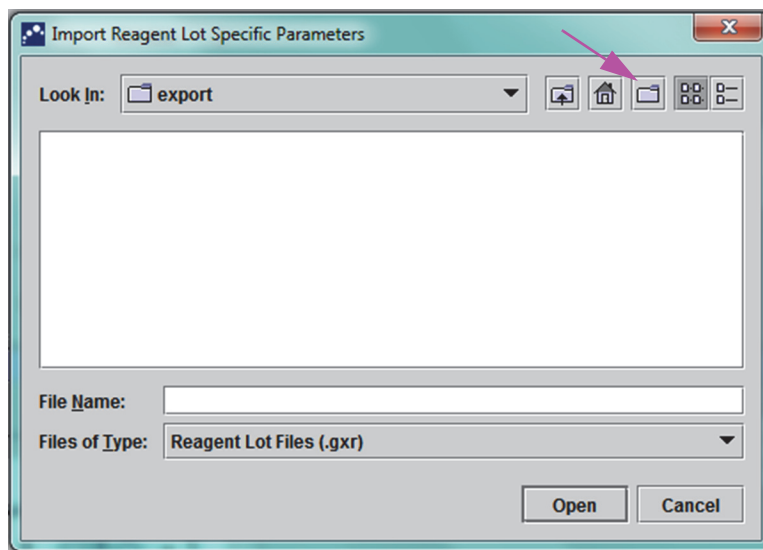

Figure 2-55. Import Reagent Lot Specific Parameters Dialog Box
4. Using the Look In: file viewing area, (see Figure 2-55) locate and select the .gxr/.nxr file obtained from Technical Support previously, and then click **Open**. The new lot number appears in the Reagent Lot Specific Parameters dialog box. Click **Close** in the Reagent Lot Specific Parameters dialog box to return to the Define Assays window.